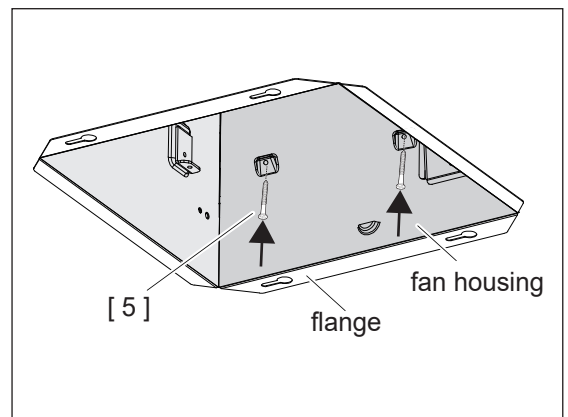

Fig 26
11. Place fan housing in opening so that its bottom edge is flush with finished ceiling. Attach to joist through holes with two Long Screws [5] as figure shows. (Fig 26)